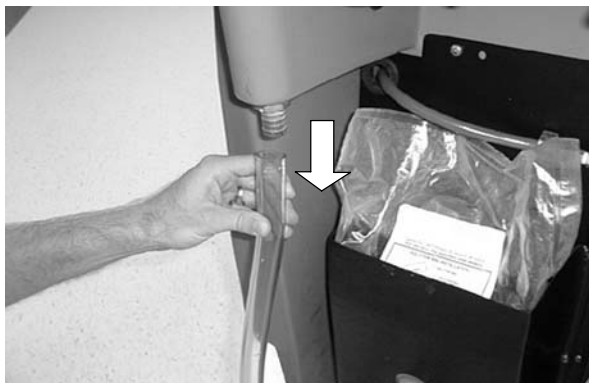

FIG. 30
3. Drain leftover solution in solution tank. Pull fill-port tube off hose barb and drain into floor drain or bucket (Figure 30). Tilt machine back to completely drain.